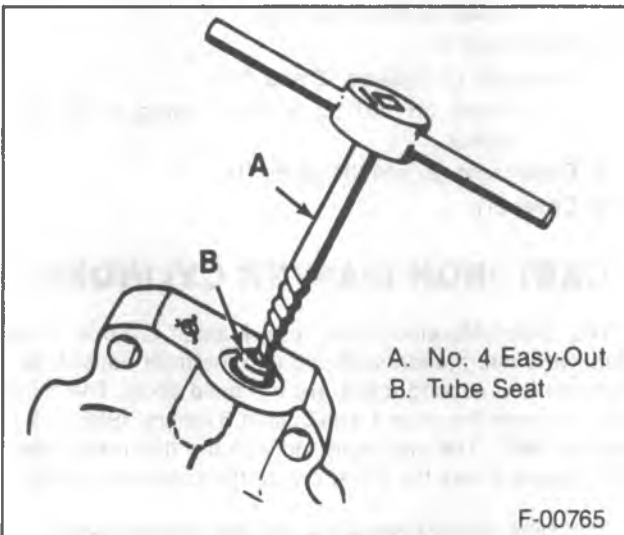

Figure 5—Removing the Tube Seat
- Tube seat in the housing for burrs, nicks or corrosion. Replace if needed (figures 5 and 6).